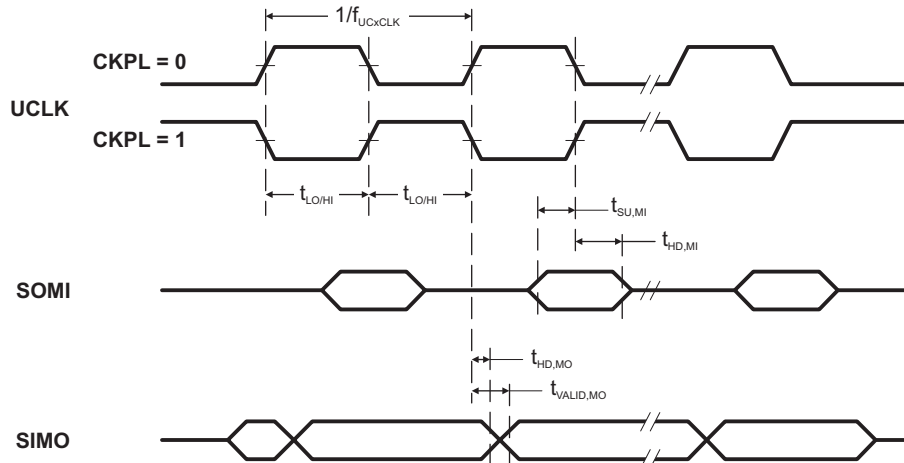
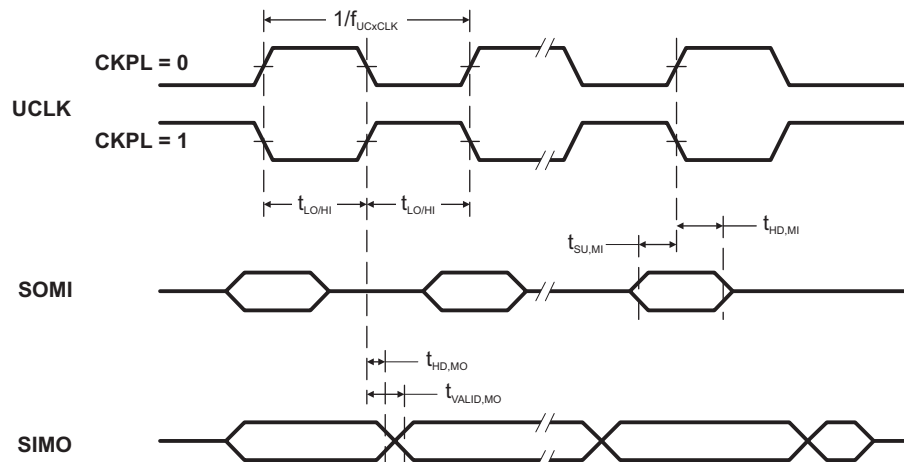

Figure 12. SPI Master Mode, CKPH = 0
Figure 13. SPI Master Mode, CKPH = 1
(see Note (1), Figure 12 and Figure 13)
- (2) Specifies the time to drive the next valid data to the SIMO output after the output changing UCLK clock edge. Refer to the timing diagrams in Figure 12 and Figure 13.
- (3) Specifies how long data on the SIMO output is valid after the output changing UCLK clock edge. Negative values indicate that the data on the SIMO output can become invalid before the output changing clock edge observed on UCLK. Refer to the timing diagrams in Figure 12 and Figure 13.
- (2) Specifies the time to drive the next valid data to the SOMI output after the output changing UCLK clock edge. Refer to the timing diagrams in Figure 12 and Figure 13.
- (3) Specifies how long data on the SOMI output is valid after the output changing UCLK clock edge. Refer to the timing diagrams in Figure 12 and Figure 13.